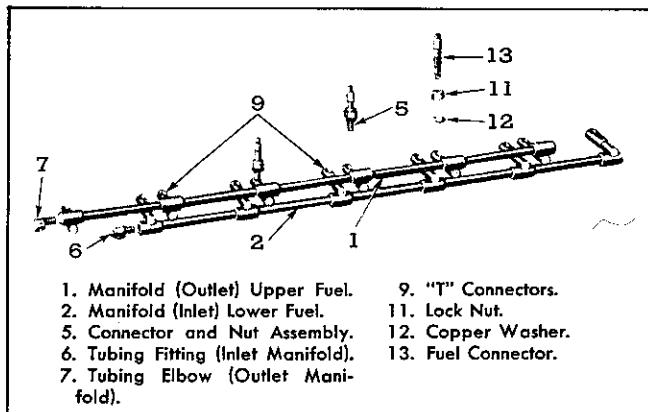

Fig. 50—Fuel Oil Manifold and Connected Part Details and Relative Location of the Various Parts.
6. Remove manifold, being careful not to bind tee connectors (9) in head.
**Replace Fuel Oil Manifolds**—The fuel oil manifolds are replaced by reversing the sequence of operations for removal. Refer to Fig. 50, and note that the "T" connectors (9) on the manifolds (1) and (2) leading into the cylinder head are on the top side of the lower (inlet) manifold (2) and on the bottom side of the upper (return) manifold (1). These